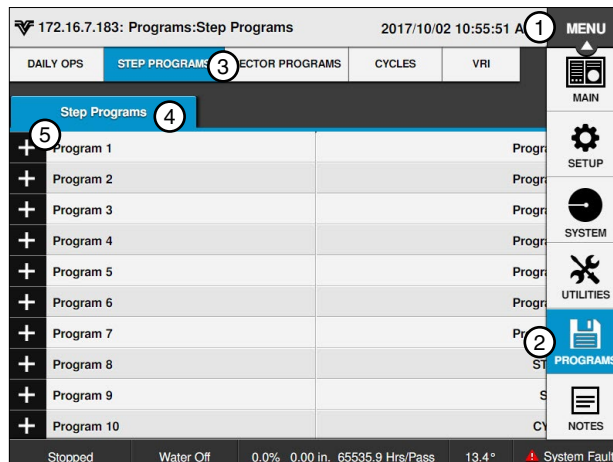

Figure 121-1 1. Menu 2. Programs 3. Step Programs 4. Step Programs 5. New Program
6. Push **Menu**, **Programs**, and **Step Programs** to view the Step Programs screen. Refer to Figure 121-1.